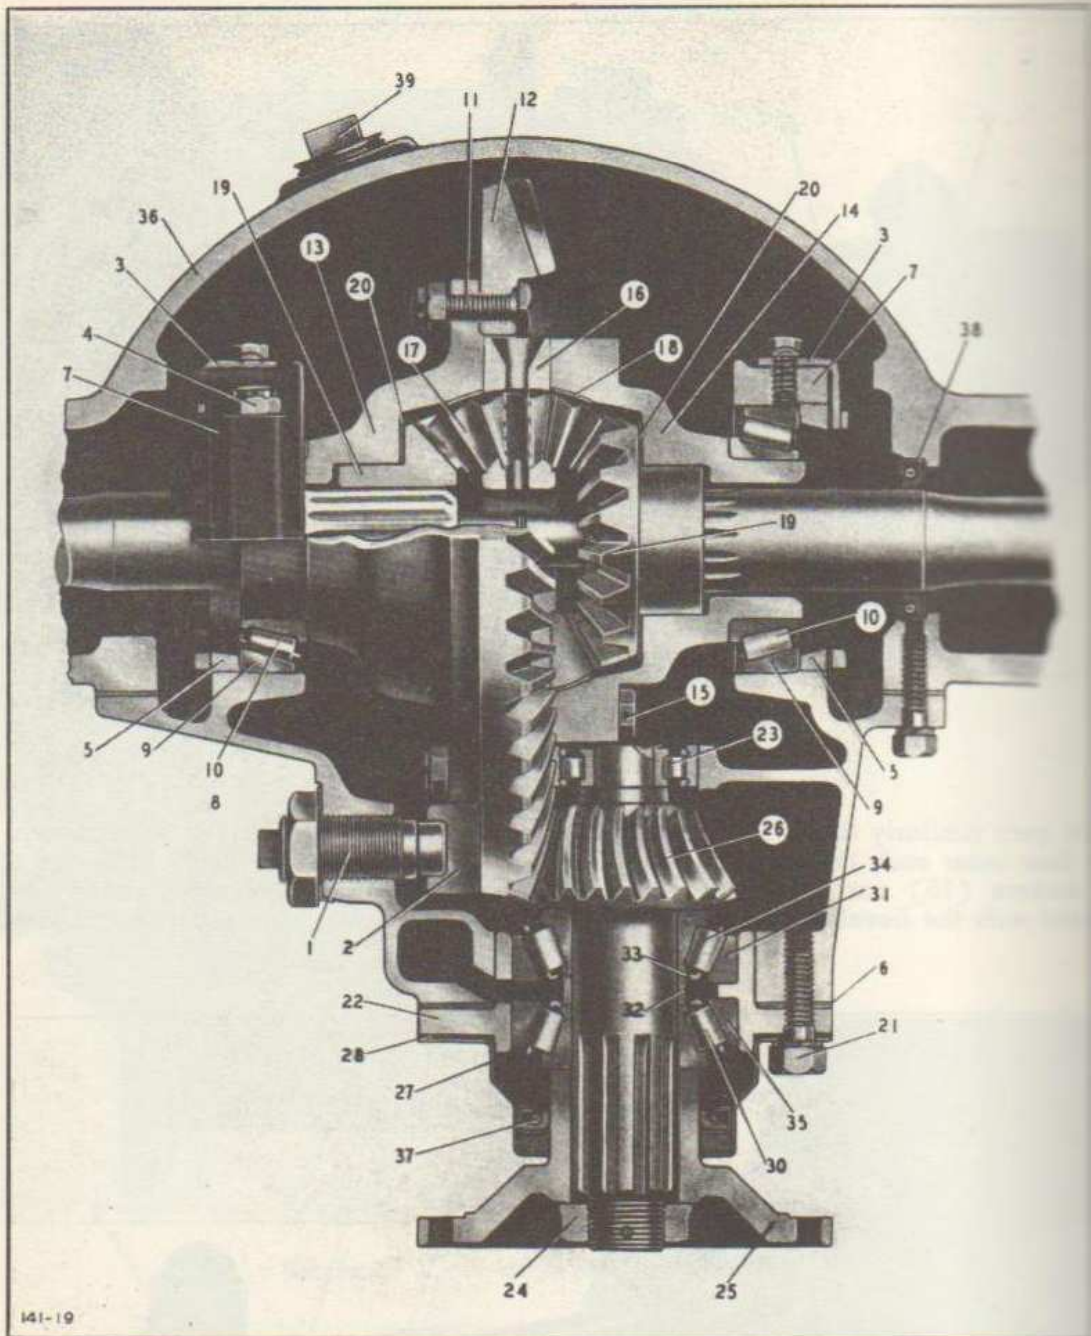

Fig. 5—Horizontal Section of Axle Drive Unit
As shown by the sectional view, Figure 5, the first-reduction pinion gear (26) is straddle-mounted, having two tapered-roller bearings (30) and (34) on its integral shaft and a straight roller bearing (23) on its inboard end. Back of the bevel ring gear (12) opposite the pinion gear center, is a shoe (2) with adjusting screw (1) to limit the gear deflection under extreme loads. The two differential bevel side gears (19) are enclosed in casing halves (13) and (14) carried on widely-